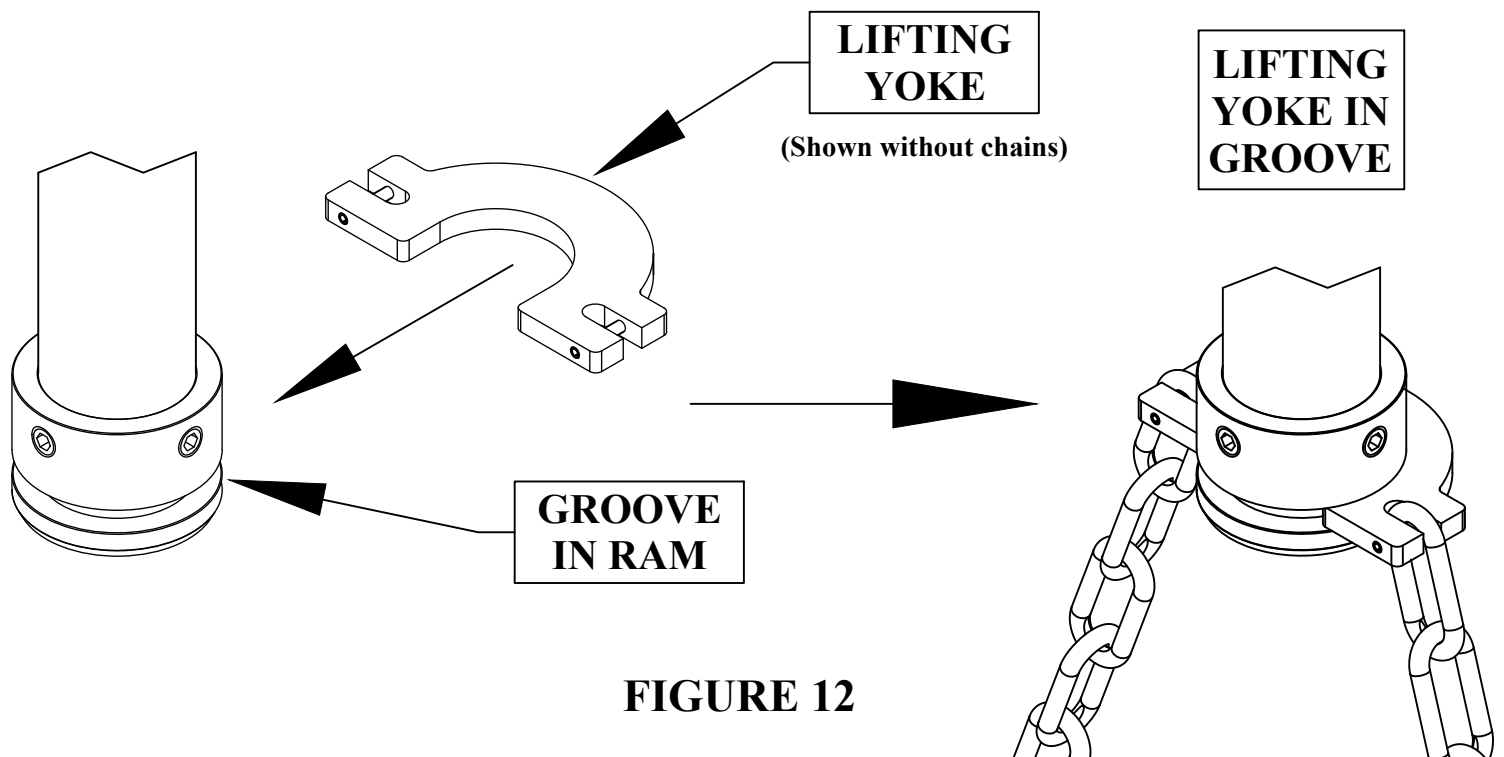

FIGURE 12
- Place the lifting yoke on the lift chain fully in the groove in the ram, as shown in FIGURE 12.